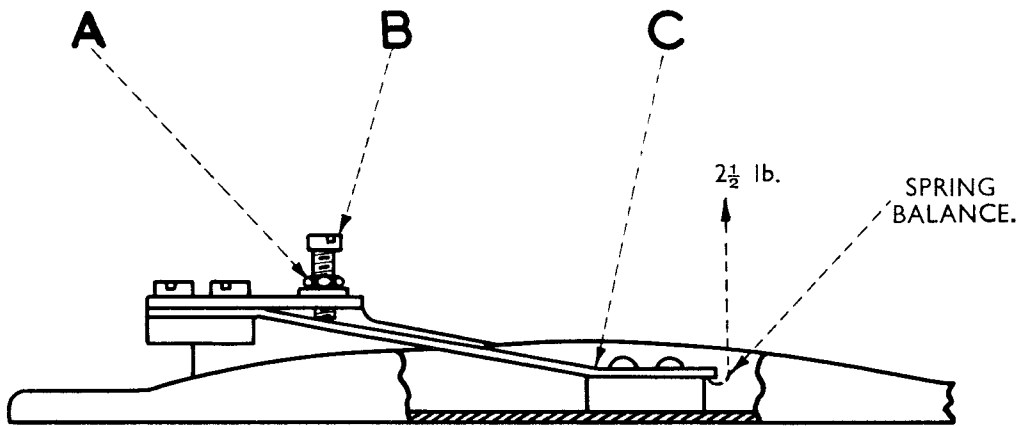

FIG. 116
**"18A. Traversing Link Damping Device (Fig. 116)**
- 18A.1 Check that the pressure required to just lift the friction pad C from contact with the traversing link is  $2\frac{1}{2}$  lbs. (1.1 kgs.) when a spring balance is applied as shown in Fig. 116.